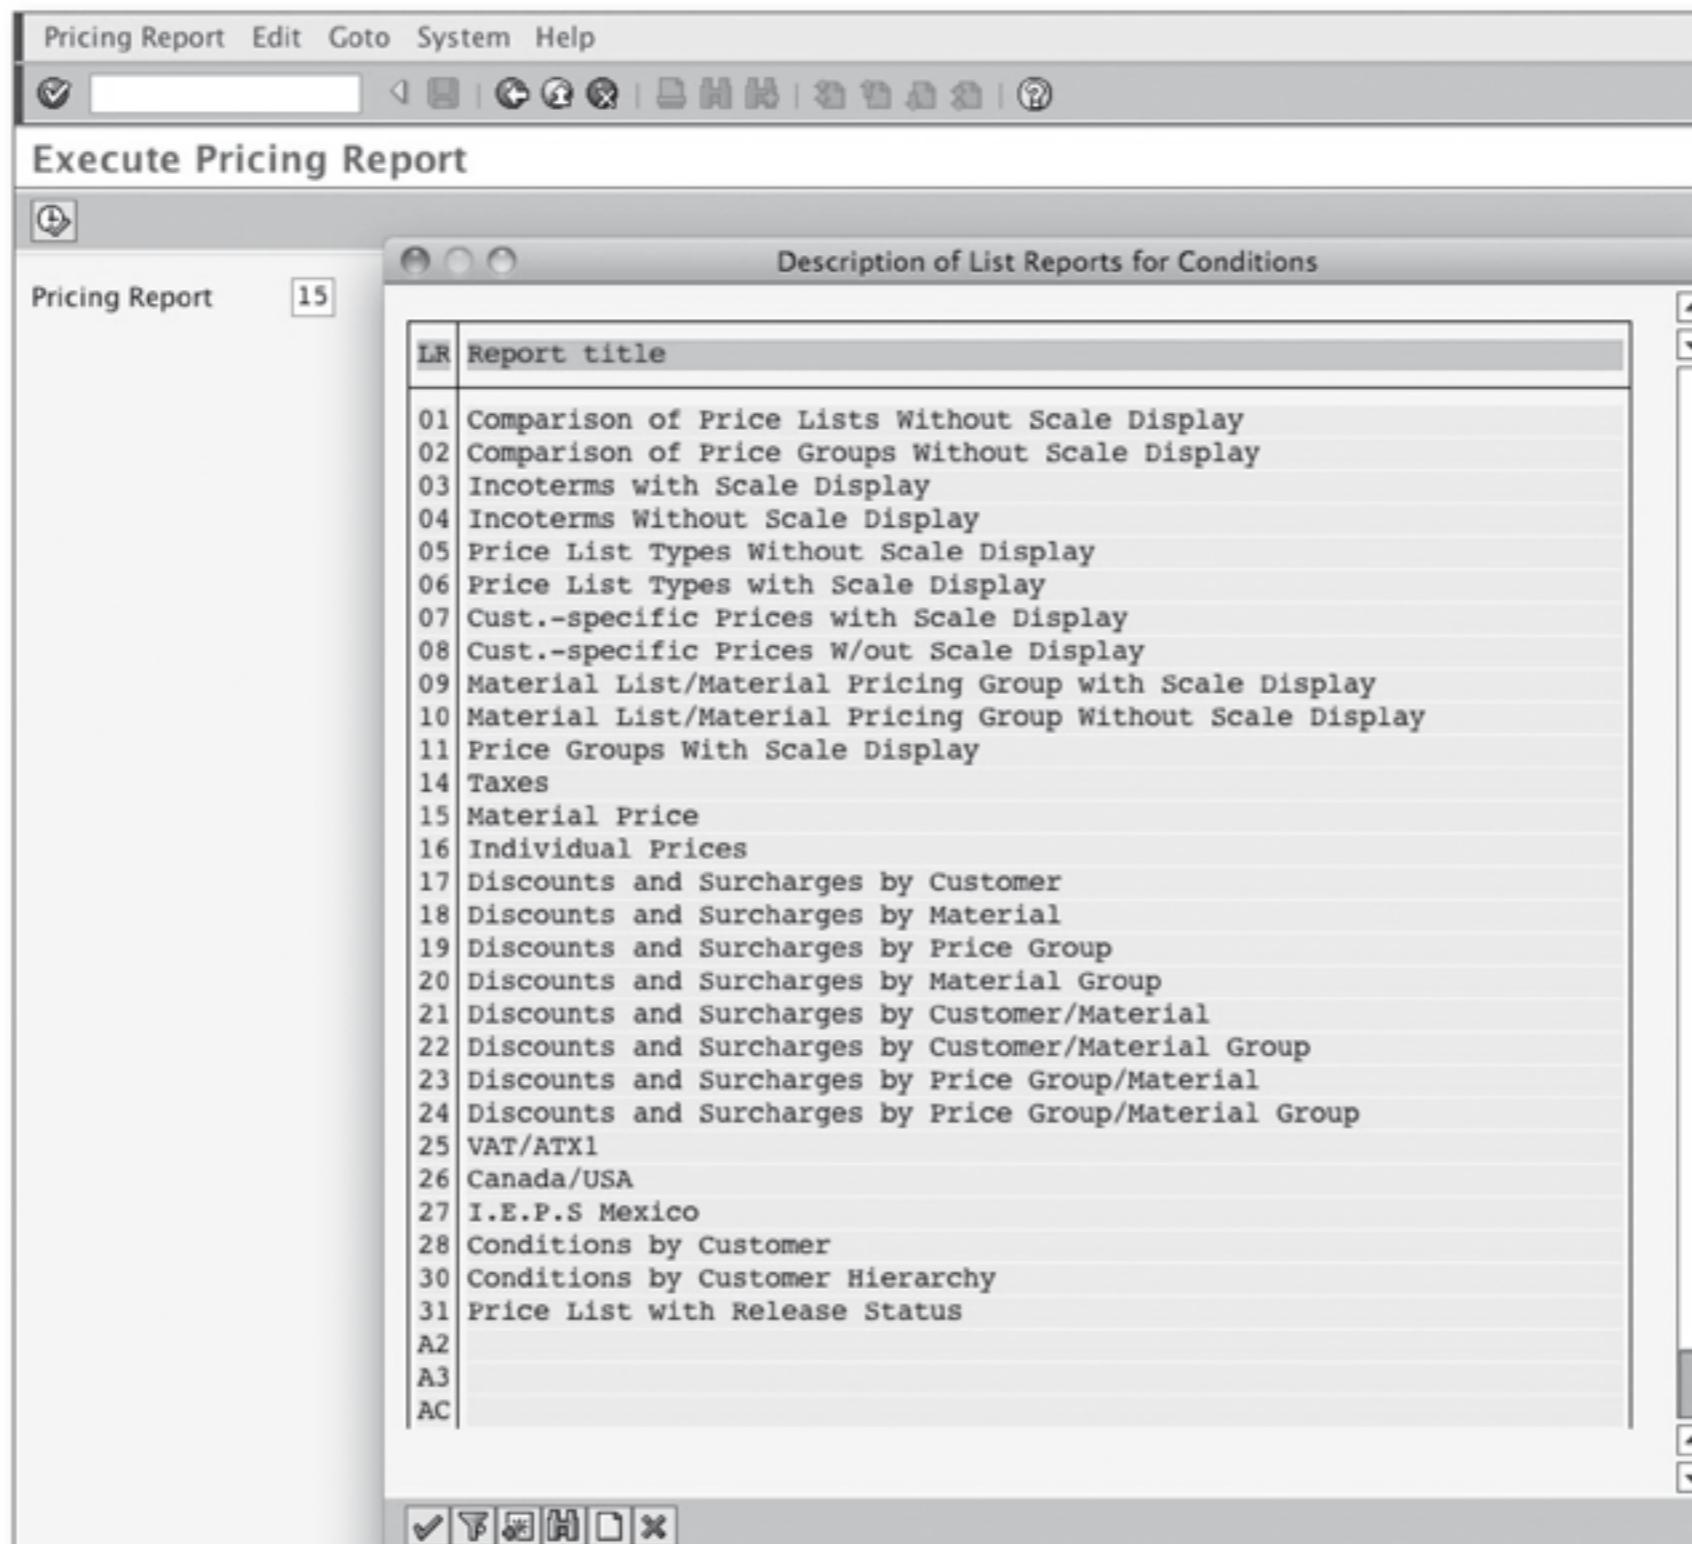

Figure 6.7 Description of List Reports for Conditions
1. Let's follow this path and take a look at the report: LOGISTICS • SALES AND DISTRIBUTION • MASTER DATA • INFORMATION SYSTEMS • CONDITIONS & PRICING • PRICING REPORTS. (See Figure 6.7.)